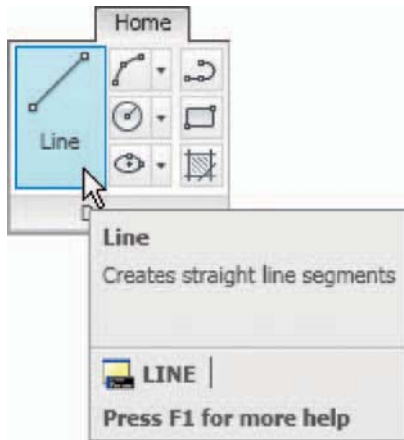
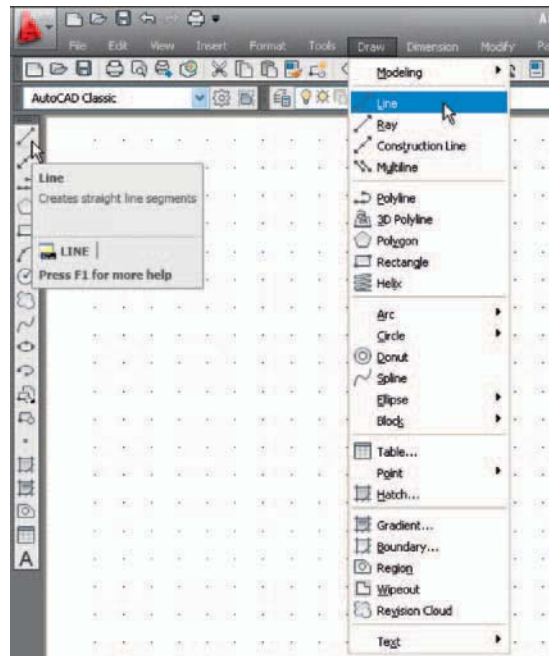

Fig. 2.1 The **Line** tool from the **Home/Draw** panel with its tooltip
Fig. 2.2 Selecting the **Line** tool in the **Classic AutoCAD** workspace
Illustrations throughout this chapter will be shown as working in the **2D Drafting & Annotation** workspace. In this workspace the **Home/Draw** panel is at the left-hand end of the **Ribbon** and **Draw** tools can be selected from the panel as indicated by a *click* on the **Line** tool (Fig. 2.1). In this chapter all examples will show tools as selected from the **Home/Draw** panel. However, methods of construction will be the same if the reader wishes to work in other workspaces. When working in the **Classic AutoCAD** workspace **Draw** tools can be selected from the **Draw** toolbar (Fig. 2.2) The **Draw** tools can also be selected from the **Draw** drop-down menu (Fig. 2.2) whether working in **2D Drafting & Annotation** or **Classic AutoCAD**.
2. *Left-click* on the **Line** tool in the **Home/Draw** panel, in the **Draw** toolbar (Figs. 2.1 and 2.2) or *enter* line or **L** at the command line.